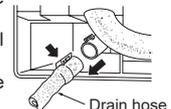

Figure 2
- The drain hose should point downward for easy drain flow. (Figure 2)
- Pull out the drain hose at the rear left of the indoor unit. (Figure 2)